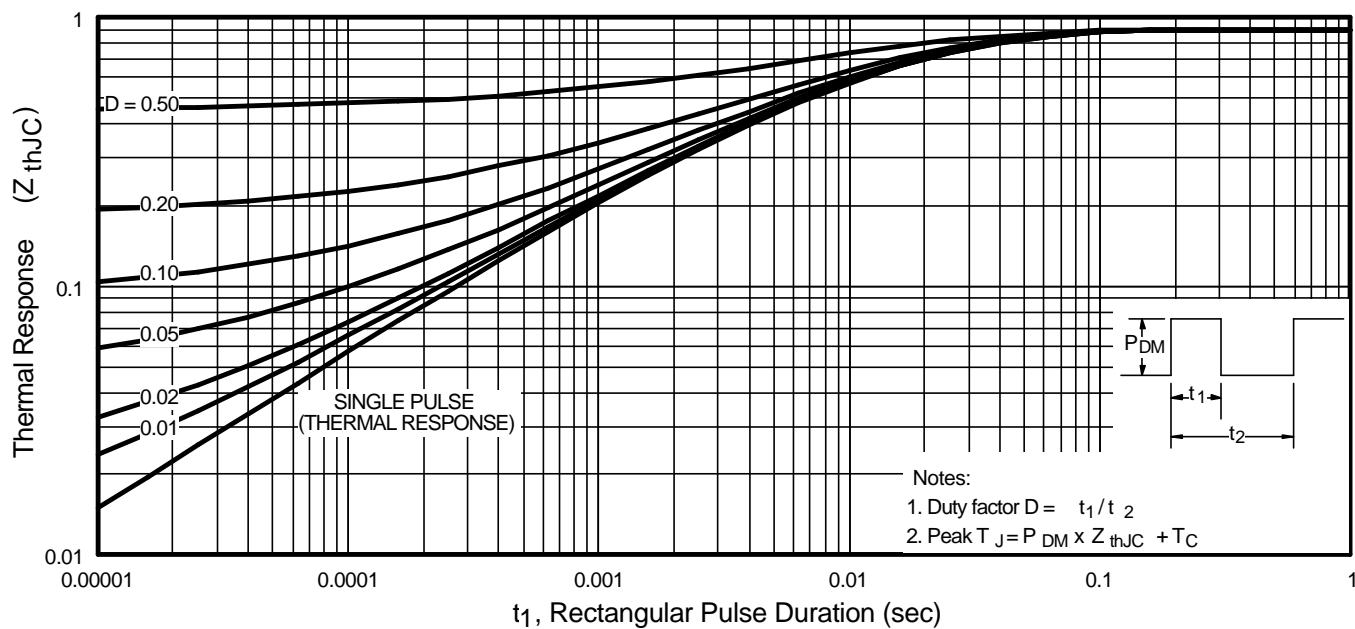

Fig 11. Maximum Effective Transient Thermal Impedance, Junction-to-Case
① Repetitive rating; pulse width limited by max. junction temperature. (See fig. 11)
② $V_{DD} = 25V$, starting $T_J = 25^\circ\text{C}$, $L = 320\mu\text{H}$